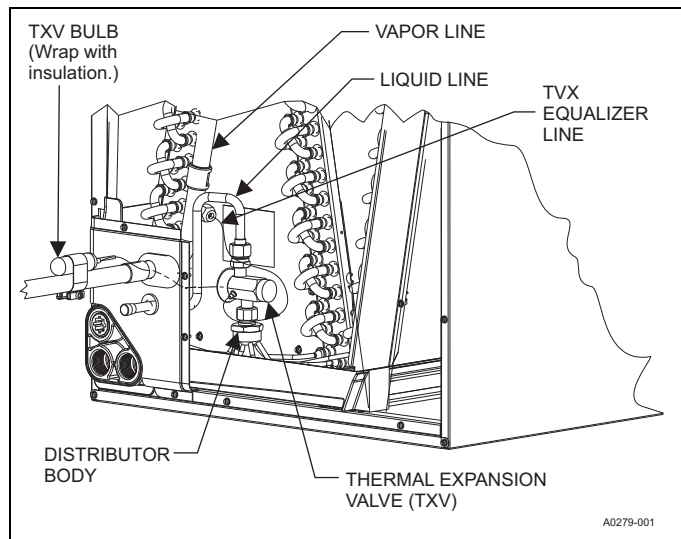

FIGURE 7: TXV Bulb and Equalizer Line Installations
6. Install the TXV equalizer line onto the vapor line by hand tightening the 1/4” SAE coupling nut to the equalizer fitting, and apply an additional 1/3 turn to seal. See Figure 7.
8. Install the TXV bulb to the vapor line near the cabinet, using the bulb clamp(s) furnished with the TXV assembly. Ensure the bulb is making maximum contact. See Figures 7 and 8.